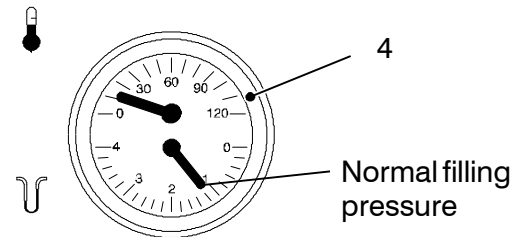

fig. 2.2
Ensure that the c.h. circuit is regularly filled with water (even if the boiler is only used for d.h.w. supply) checking that the pressure indicated on the temperature and pressure gauge 4 is not lower than that shown in fig. 2.2.
If the pressure reading on the pressure gauge is below that shown in fig. 2.2, then the system will require topping up. A filling loop is normally provided by the installer for this purpose.
- 2 Open the valves of the filling loop and watch the gauge until it reaches normal filling pressure as shown in fig. 2.2.